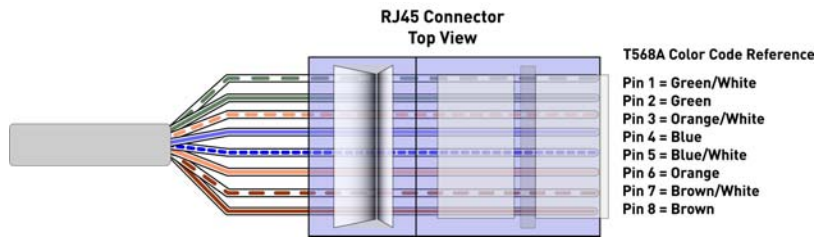

Figure 2
**NOTE: All wiring should be terminated to the T568A wiring standard as shown in Figure 2.**